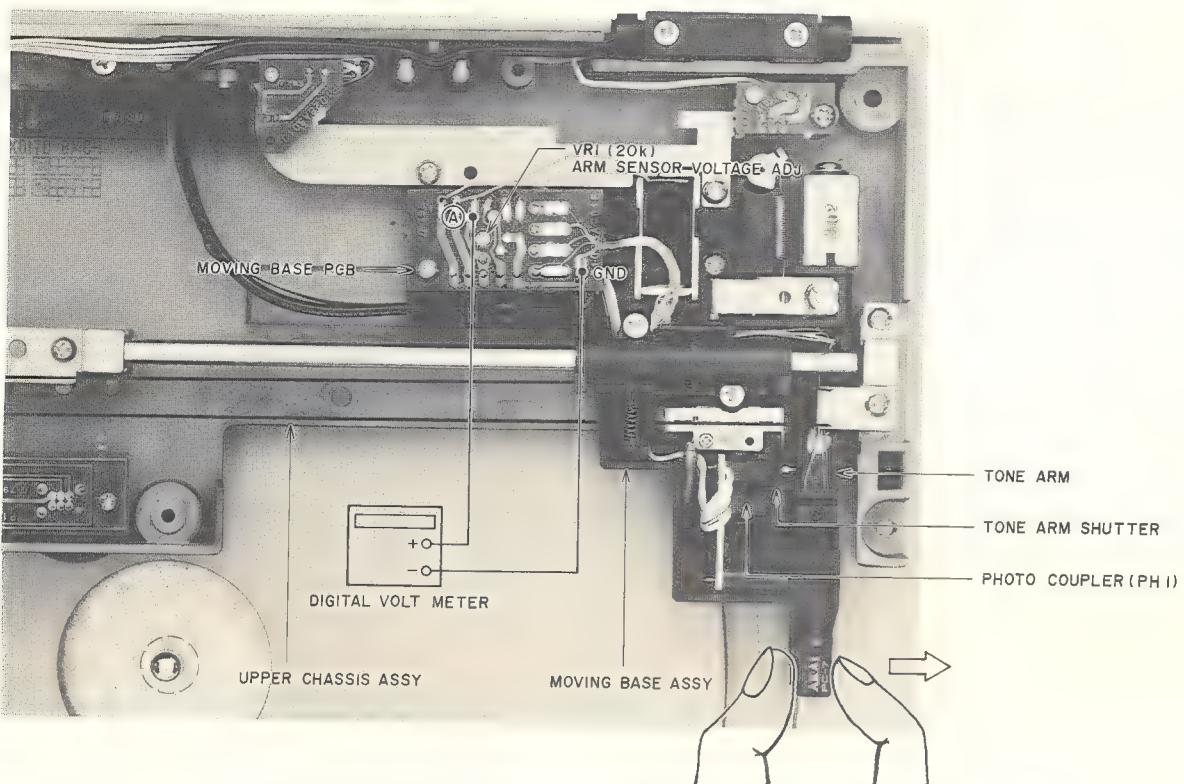

Fig. 7-1 Inside View of Moving Base Block
7-1. ARM SENSOR VOLTAGE ADJUSTMENT (Refer to Fig. 7-1)
- 2) Connect a digital voltmeter between the point A and ground. Move the Tone Arm by hand in the direction as shown in Fig. 7-1 to move the Tone Arm Shutter out of the photocoupler, and adjust VR1 on